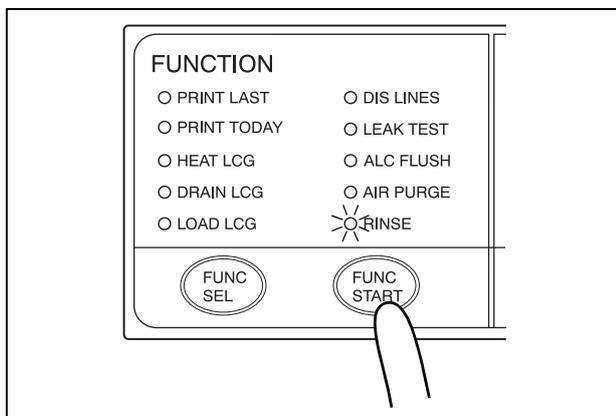

Figure 7.43
11. Press the FUNC START button on the subcontrol panel (see Figure 7.43).